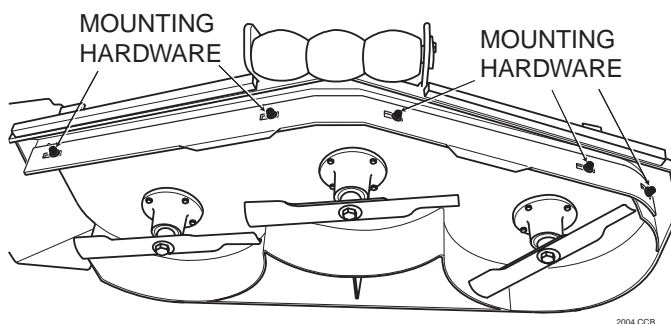

Figure 6-8. Custom-Cut Baffle
2. Remove the hardware securing the Custom-Cut Baffle to the cutter deck. (See Figure 6.8).